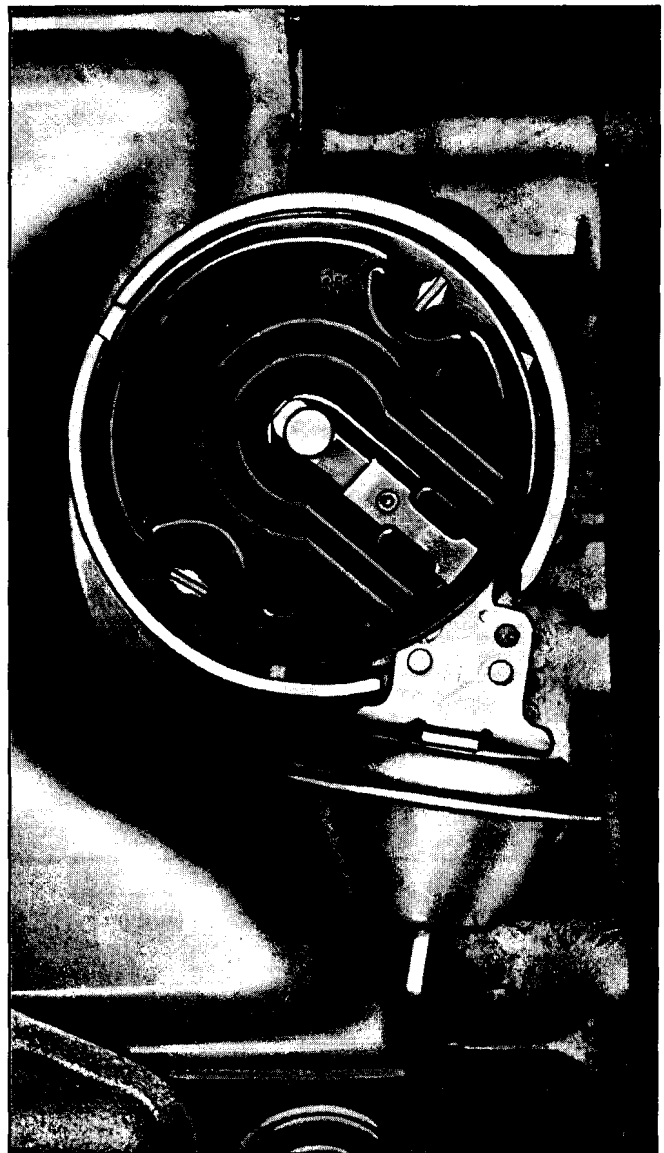

Fig. 6E-53 Rotor in No. 1 Firing Position - V-8
3. Crank engine so rotor is in position to fire No. 1 cylinder and timing mark on harmonic balancer is indexed with the proper mark on the timing chain cover, Fig. 6E-53, 6E-54 and 6E-55.